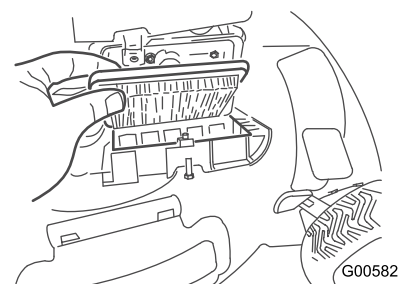

Figure 25
2. Replace the air filter (Figure 25).